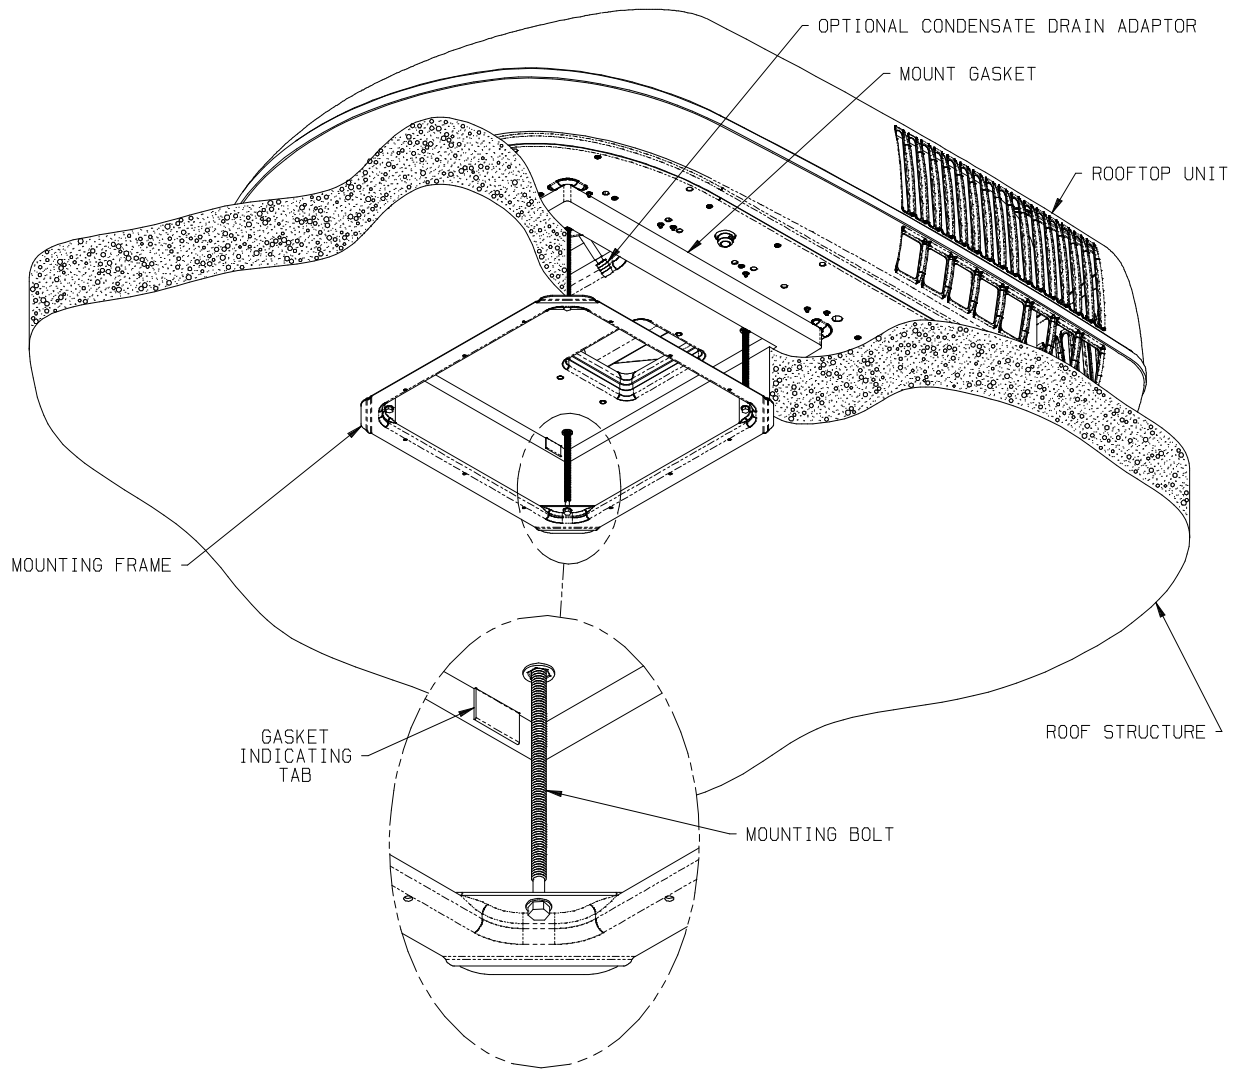

FIGURE 4
A mounting frame is supplied with the ceiling assembly. Follow the steps below to secure the air conditioner to the roof. Refer to Figure 4.
- C. Proper tension has been achieved for each bolt when any portion of each gasket indicating tab has been pulled down even with the roof. See Figure 4. The upper unit has now been properly installed with optimum gasket compression.
- D. If the air conditioner is equipped with an optional evaporator condensate pump, a ½" I.D. hose must be provided that runs from the 14" square opening, through the vehicle ceiling and down the side wall to allow water to drain under the vehicle. The hose must not be allowed to kink shut while making a bend. Connect the top end of the drain hose to the barbed fitting shown in figure 4.